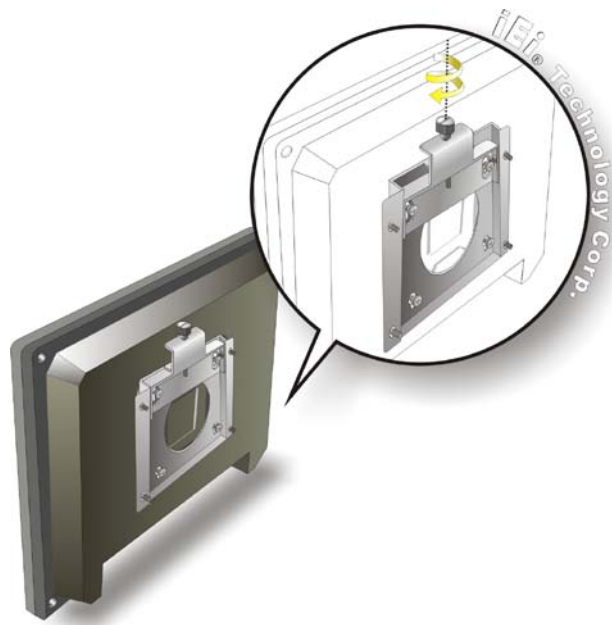

Figure 4-11: Secure the Panel PC
- Step 9:** Secure the panel PC by fastening the retention screw of the wall-mounting bracket. (**Figure 4-11**).